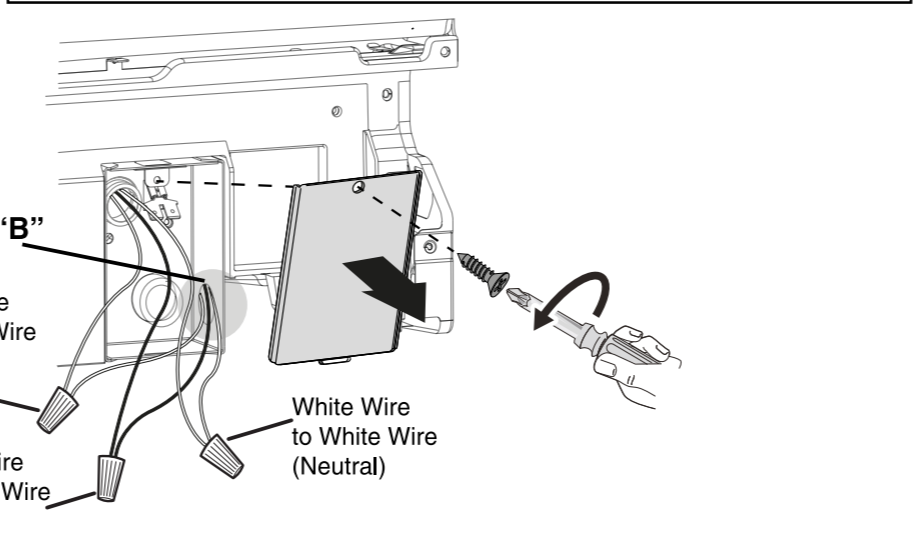

Figure 12
- Review Figures 12, 13 and 14 to see the different ways to connect dishwasher to drain system. Choose method that best suits your need.